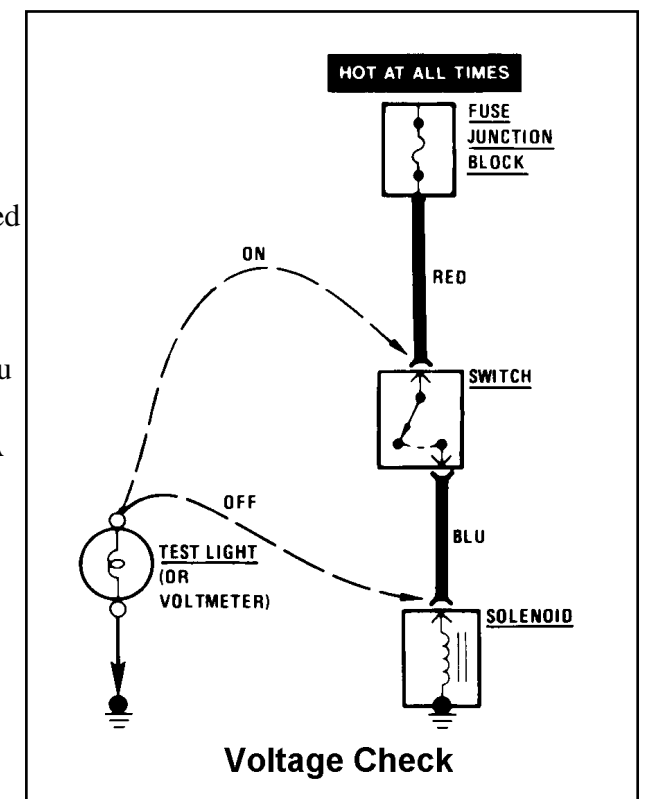

Figure 6
3. If the test light glows, there is voltage present. If you are using a voltmeter, note the voltage reading. It should be within one of measured battery voltage. A loss of more than one volt indicates a problem. See **Figure 6**.